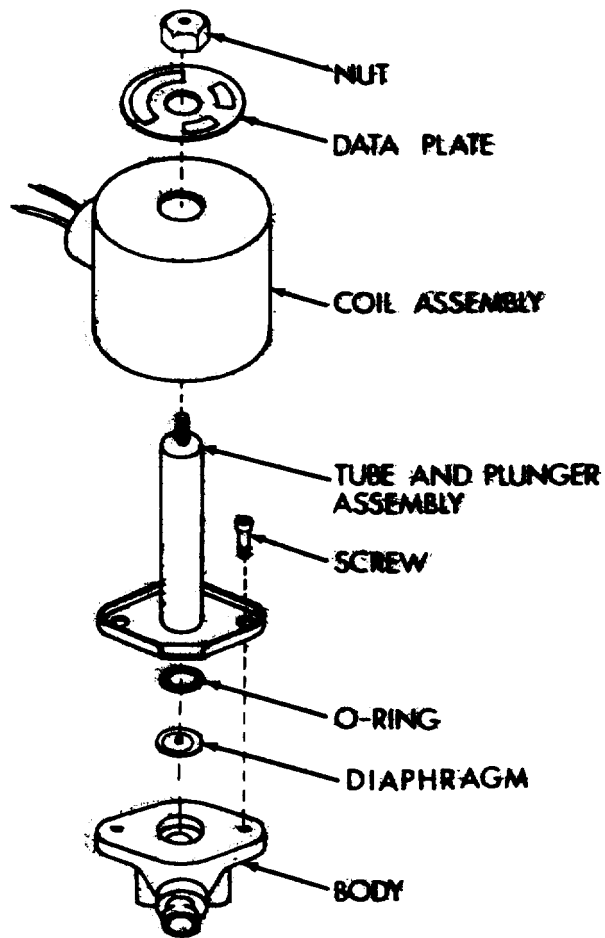

Figure 5-7. Typical Solenoid valve
## 5.46. Description (see figure 5-7).
a. *Removal* Remove the coil assembly in accordance with the following instructions: (See figure 5-7).
(1) Disconnect wiring harness plug from receptacle.
(2) Remove nut and data plate from top of coil assembly, and lift off coil assembly.